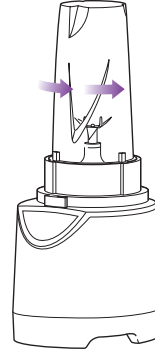
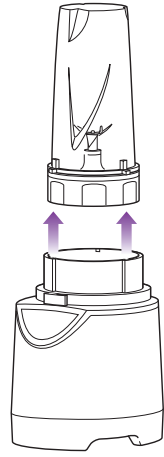

Fig. 4
Fig. 5
- 6 When you have reached your desired consistency, stop the appliance by removing your hand from the single serve cup. Then turn the single serve cup counter clockwise (Fig. 4) and pull straight up to remove. (Fig. 5)
- 7 Push down on the "PULSE" on the handle to start the appliance. (Fig. 4)
- 9 To remove the lid, pull the lid handle up to a 90° angle. Turn the bowl counter clockwise to lift off the base. (Fig. 5, Fig. 6)